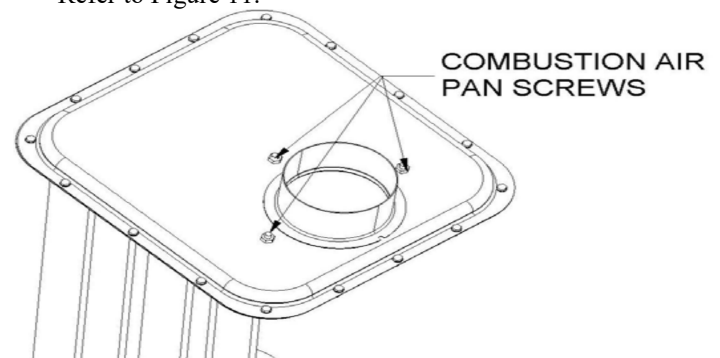

Figure 11: Top Cover Screws and Combustion Air Pan Screws
5. Remove the eleven (11) screws from the furnace top cover. Refer to Figure 11.
7. Remove the two 3/16-16 Phillips screws from the flange at the top of the four (4) inch combustion air pipe located inside the blower compartment. Refer to Figure 11.